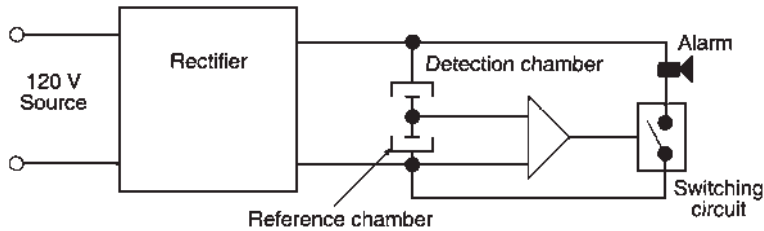

Figure 5.11 Diagram of ionization and photoelectric devices.
*Ionization and Photoelectric Devices:* Figure 5.11 can be used to illustrate both types of units—the difference is the use of either an ionization sensor or a photoelectric sensor in the reference chamber and detector portions of the circuit. Under normal conditions, the voltage across the reference chamber and the detection chamber is the same. However, when fire occurs, the detection chamber then functions as described in the previous explanation. Thus, when there is sufficient voltage difference between the two chambers, the alarm is activated through the switching circuit.